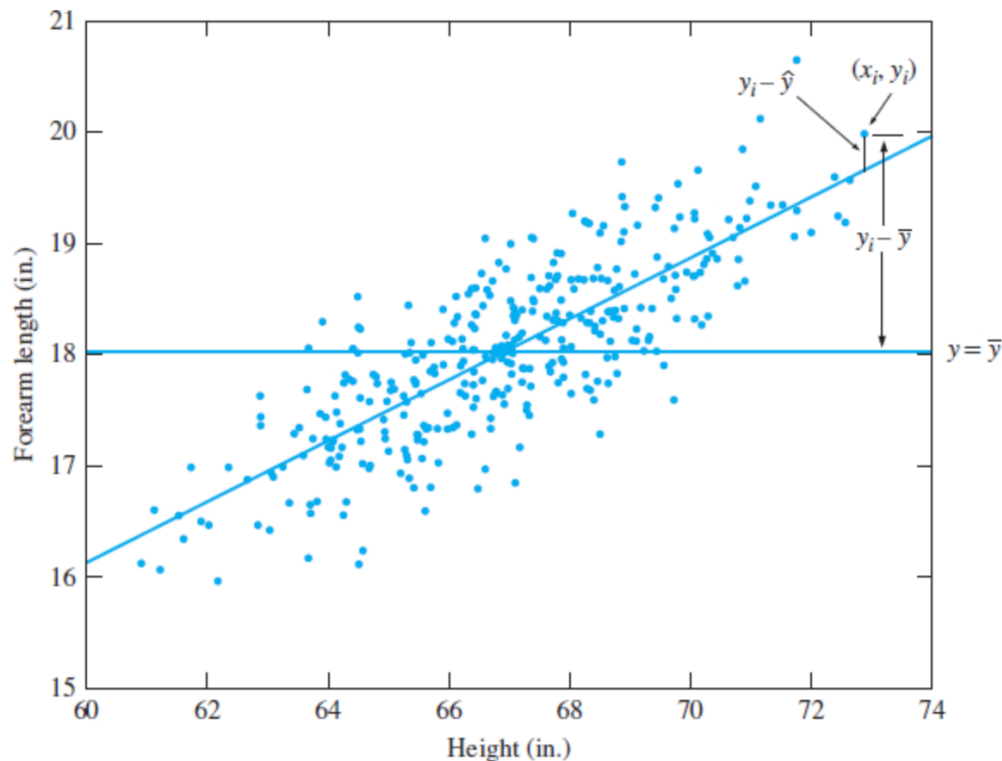

FIGURE 7.12 Heights and forearm lengths of men. The least-squares line and the horizontal line $y = \bar{y}$ are superimposed.
- Figure 7.12 presents Galton's data on forearm lengths versus heights.